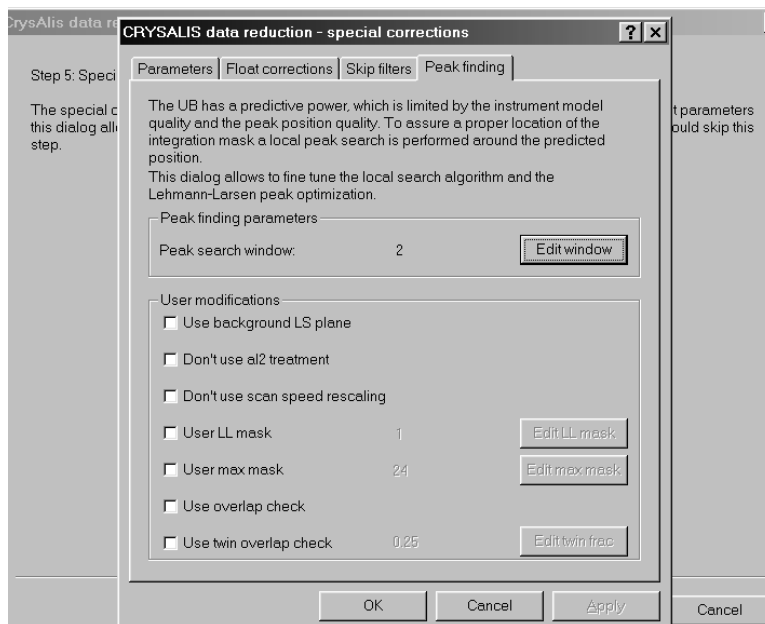

Figure 6.5.65 Screenshot of Data Reduction: Special Corrections
7. Follow the procedure for data reduction as described in section 6.5.3.5. On reaching STEP 5: Special corrections, click on the button ‘**Special corrections properties**’. A window like the one in figure 6.5.65 should open. Click on the tab marked ‘**Peak finding**’. Here you will be offered the choice of applying various corrections.